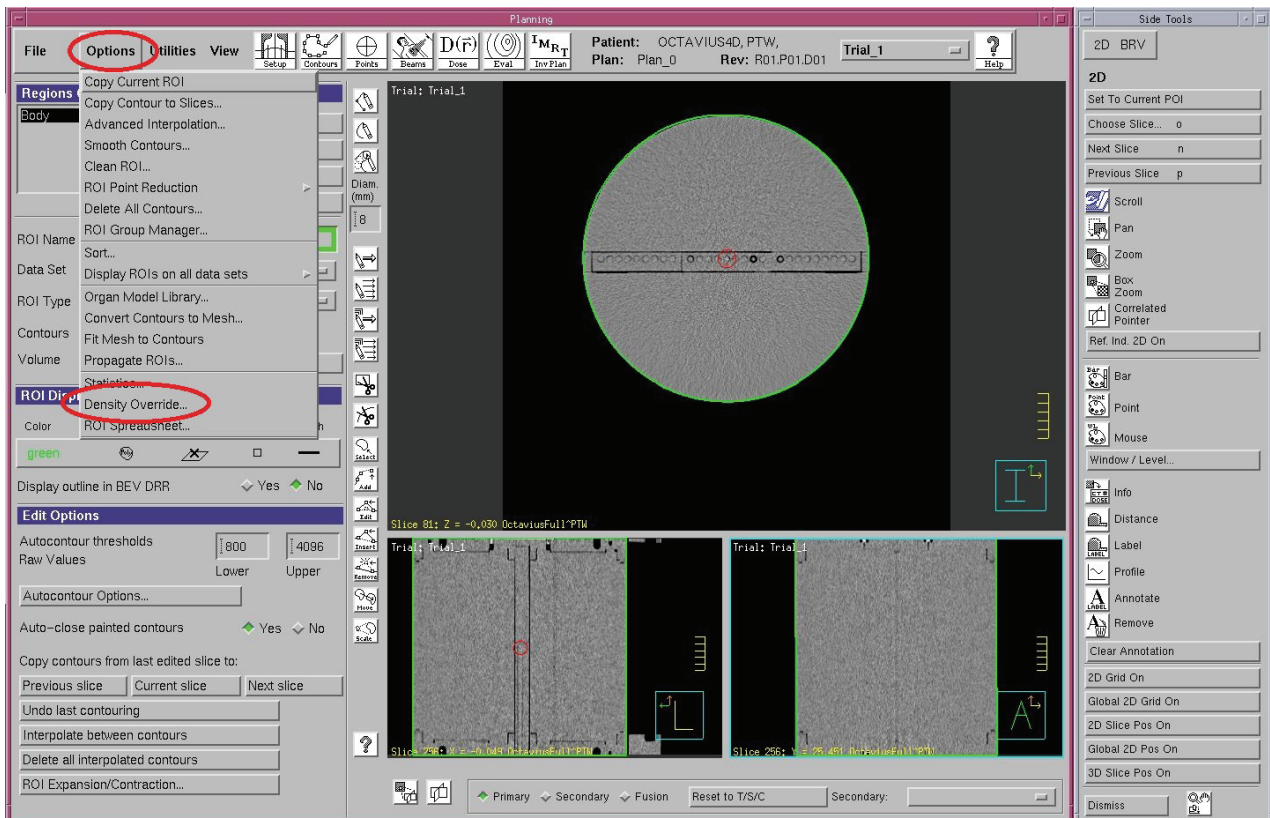

Fig. 2.10 Density override
7. From the **Options** menu, select the **Density Override** option (Figure 2.10).